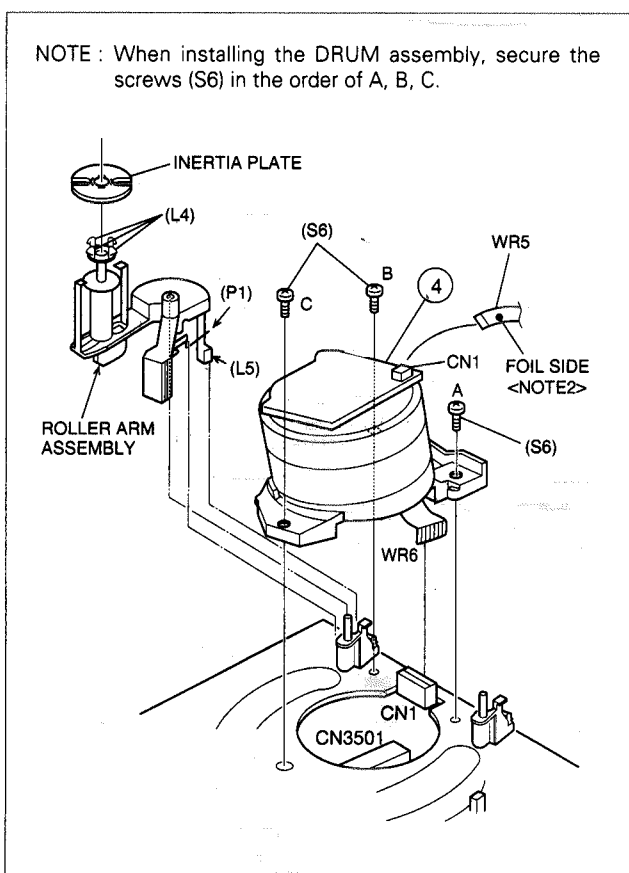
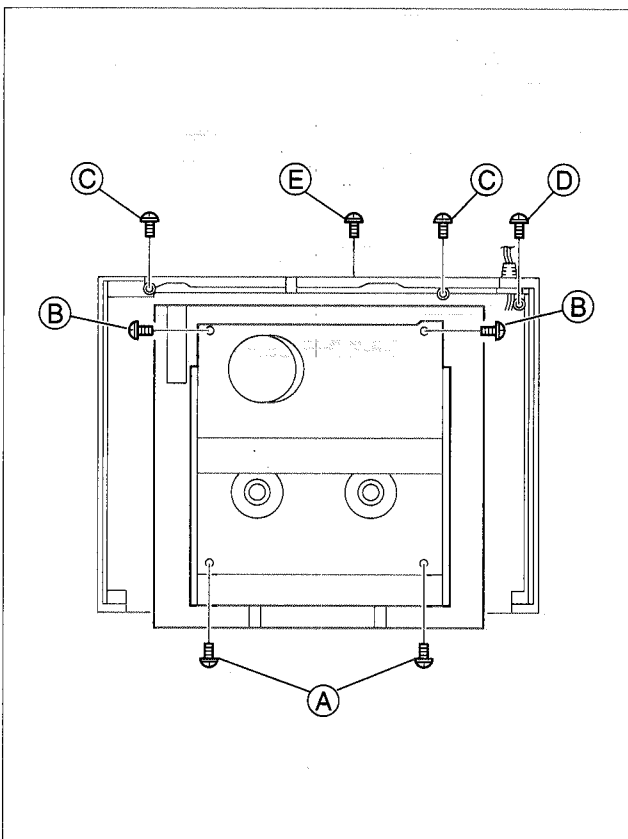
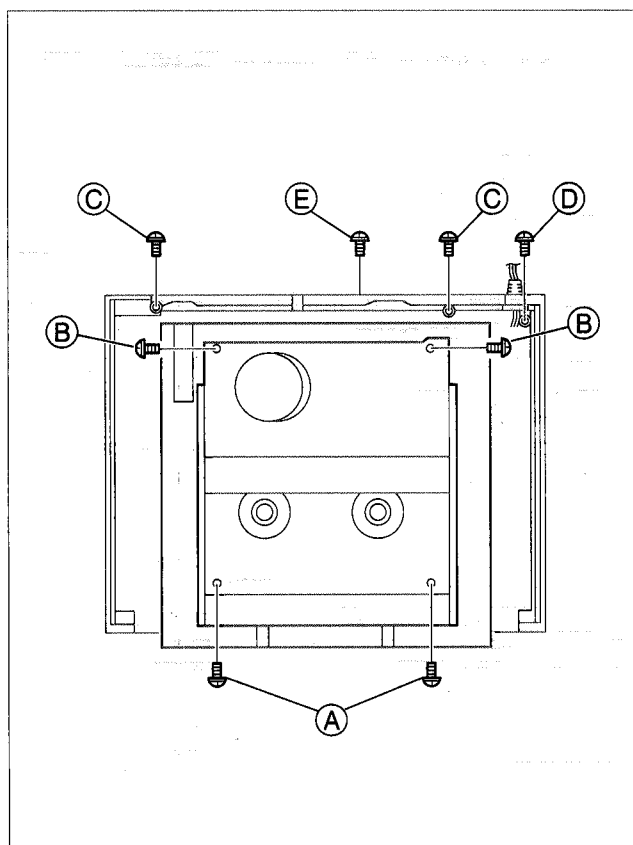

Fig. D4
Fig. 1-4-1
Fig. 1-4-4
- (1) Remove the Top cover, Bracket and Front panel assembly. (See 1.3 DISASSEMBLY/ASSEMBLY METHOD. Take care not to pull the drum wire (Fig.D4) from CN1.)
- (2) Lower the cassette holder, and make the preparations required in order to remove the screws from the Mechanism assembly. (Refer to the "Procedures for Lowering the Cassette holder assembly" on pages 1-4 of 1.3 DISASSEMBLY/ASSEMBLY METHOD.)
- (3) Take out 2 screws (A) and 2 screws (B) as shown in Fig. 1-4-1.
- (4) Remove the flat wires from CN3011 and CN7504 on the Main board assembly, CN7105 on the Terminal board assembly.
- (5) Take out 2 screws (C), 1 screw (D) and 1 screw (E) as shown in Fig. 1-4-1.
- (1) Remove the Top cover, Bracket, Front panel assembly and JACK board assembly. (See 1.3 DISASSEMBLY/ASSEMBLY METHOD. Take care not to pull the drum wire (Fig.D4) from CN1.)
- (3) Take out 2 screws (A) and 2 screws (B) as shown in Fig. 1-4-4.
- (4) Remove the flat wires from CN3011 on the Main board assembly.
- (5) Take out 2 screws (C), 1 screw (D) and 1 screw (E) as shown in Fig. 1-4-4.